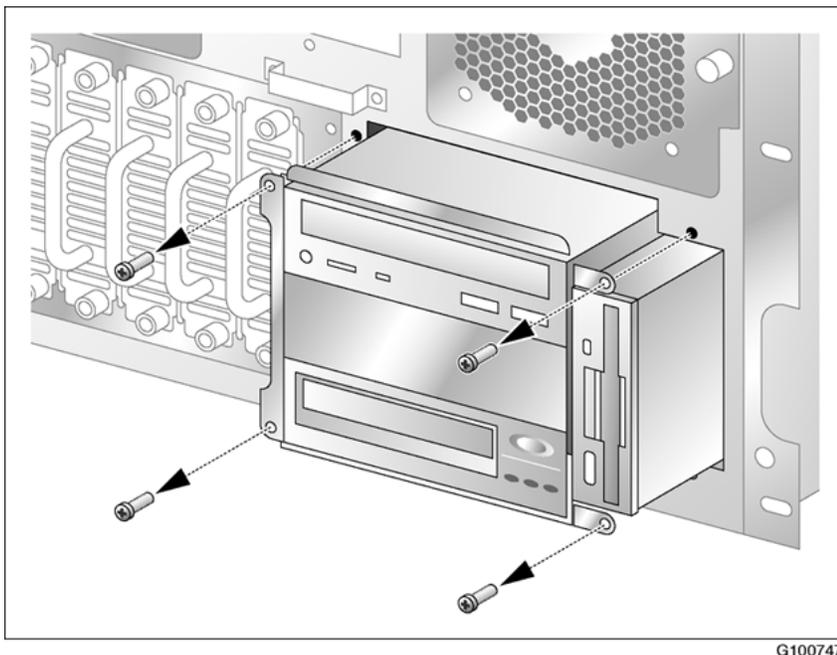

Figure 25: Remove media drive from chassis
2. Locate the media drive carrier, and loosen the four Phillips-head screws and washers securing the carrier to the drive bay, as shown in Figure 25: Remove media drive from chassis on page 103.